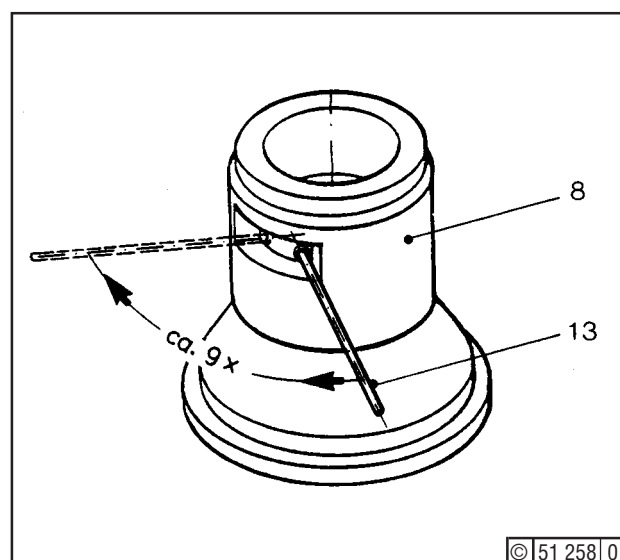

Fig. 3
Back bolt (10) through one turn. Connect hydr. pump with hoses and operate pump to obtain the pressure specified (Section 3.5, item 2). Introduce pin (13) - Fig. 3 - through aperture in bush (8). If annular nut (4) still resists turning, slowly raise oil pressure (10 to 20 bar).
Using pin (13), screw back nut (4) up to a little ahead of clamping nut (7), which requires some (9) strokes in the slot of bush (8) - Fig. 3 -. Take off oil pressure.